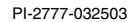
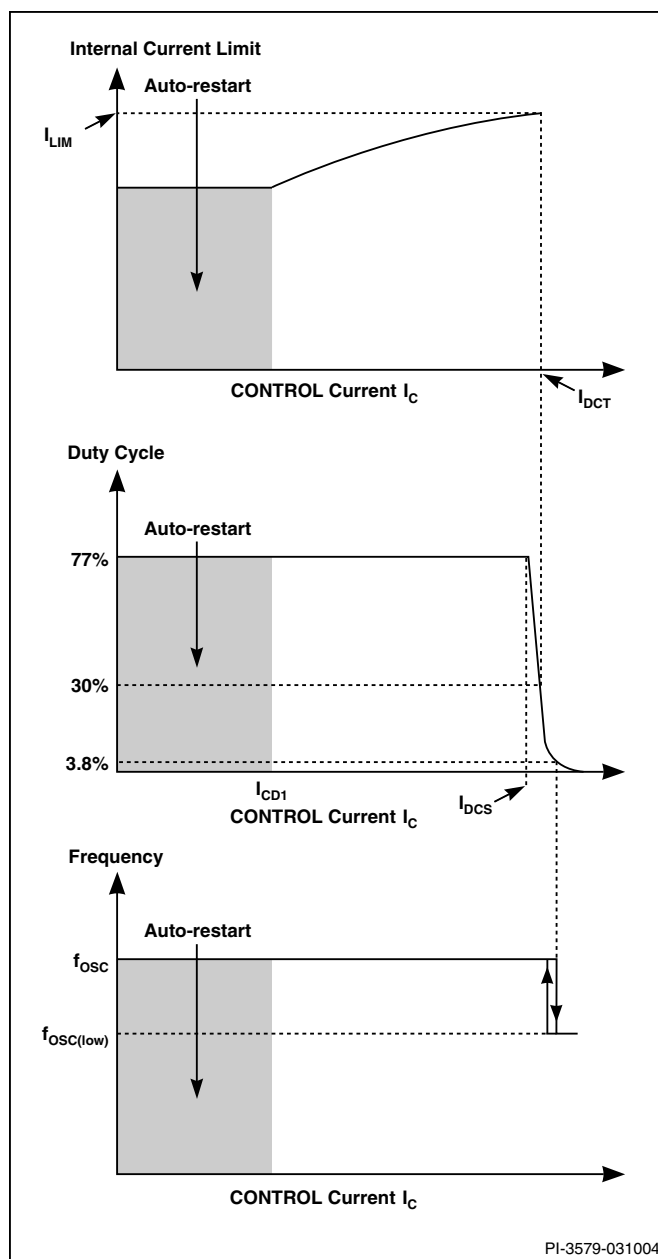
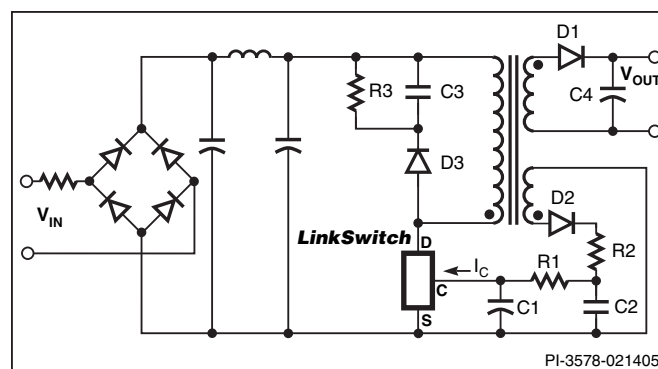
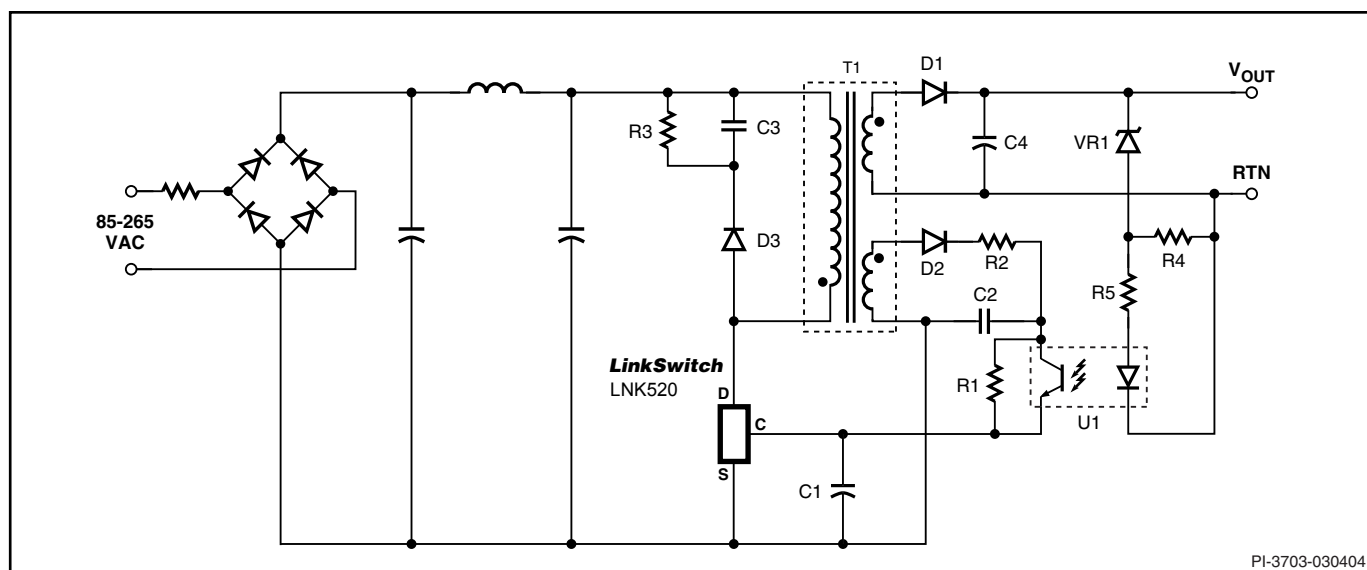

Figure 2. Block Diagram.
Figure 4. CONTROL Characteristics.
Figure 5. Power Supply Schematic outline.
Figure 6. Power Supply Schematic Outline with Optocoupler Feedback, Providing Tight CV Regulation.
The duty cycle, current limit and operating frequency relationships with CONTROL pin current are shown in Figure 4. Figure 5 shows a typical power supply schematic outline which is used below to describe the *LinkSwitch* operation.
During power up, as V_{IN} is first applied (Figure 5), the CONTROL pin capacitor C1 is charged through a switched high voltage current source connected internally between the DRAIN and CONTROL pins (see Figure 2). When the CONTROL pin voltage reaches approximately 5.6 V relative to the SOURCE pin, the high voltage current source is turned off, the internal control circuitry is activated and the high voltage internal MOSFET starts to switch. At this point, the charge stored on C1 is used to supply the internal consumption of the chip.
As the output voltage, and therefore the reflected voltage across the transformer bias winding ramp up, the feedback CONTROL current I_C flowing through R1 increases. As shown in Figure 4, the internal current limit increases with I_C and reaches I_{LIM} when I_C is equal to I_{DCT} . The internal current limit vs. I_C characteristic is designed to provide an approximately constant power supply output current as the power supply output voltage rises.
When I_C exceeds I_{DCS} , typically 2 mA (Figure 4), the maximum duty cycle is reduced. At a value of I_C that depends on power supply input voltage, the duty cycle control limits *LinkSwitch* peak current below the internal current limit value. At this point the power supply transitions from CC to CV operation. With minimum input voltage in a typical universal input design, this transition occurs at approximately 30% duty cycle. Resistor R1 (Figure 5) is therefore initially selected to conduct a value of I_C approximately equal to I_{DCT} when V_{OUT} is at the desired value at the minimum power supply input voltage. The final choice of R1 is made when the rest of the circuit design is complete. When the duty cycle drops below approximately 4%, the frequency is reduced, which reduces energy consumption under light load conditions.
Figure 6 shows a typical power supply schematic outline using *LinkSwitch* with optocoupler feedback to improve output voltage regulation. On the primary side, the schematic only differs from Figure 5 by the addition of optocoupler U1 transistor in parallel to R1.
When the power supply operates in the constant current (CC) region, for example at start up and when charging a battery, the output voltage is below the voltage feedback threshold defined by U1 and VR1 and the optocoupler is fully off. In this region, the circuit behaves exactly as previously described with reference to Figure 5 where the voltage across C2 and therefore the current flowing through R1 increases with increasing output voltage and the *LinkSwitch* internal current limit is adjusted to provide an approximate CC output characteristic.
When the output reaches the voltage feedback threshold set by U1 and VR1, the optocoupler turns on. Any further increase in the power supply output voltage results in the U1 transistor current increasing. The resulting increase in the *LinkSwitch* CONTROL current reduces the duty cycle according to Figure 4 and therefore, maintains the output voltage regulation.
At very light or no-load, typically less than 2 mA of output current, the output voltage rises due to leakage inductance peak charging of the secondary. This voltage rise can be reduced with a small preload with little change to no-load power consumption. The output voltage load variation can be improved across the whole load range by adding an optocoupler and secondary reference (Figure 6). The secondary reference is designed to only provide feedback above the normal peak power point voltage to maintain the correct constant current characteristic.